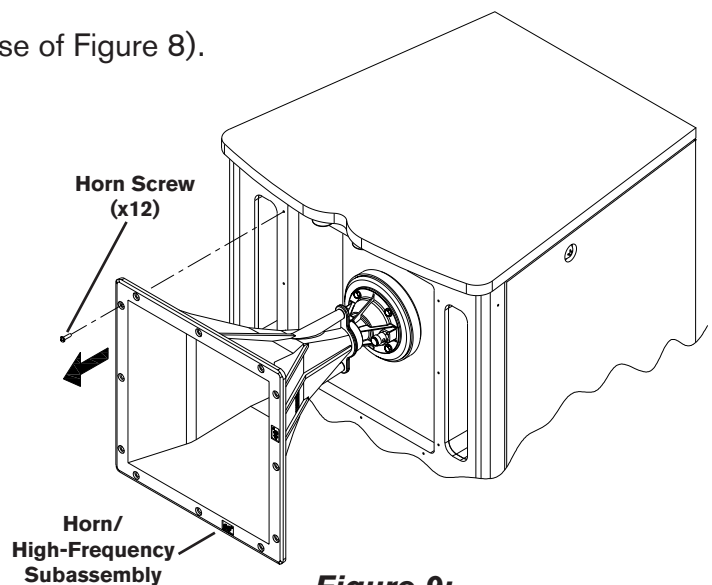

Figure 9:
2. Remove the (12) screws that attach the horn to the enclosure, and disconnect the wires that attach the compression driver to the input panel (Figure 9).
4. Reconnect the wires that attach the compression driver to the input panel (reverse of Figure 9). The yellow wire corresponds to the positive terminal, and the yellow and black wire corresponds to the negative terminal. Reattach the horn to the enclosure using the (12) screws.